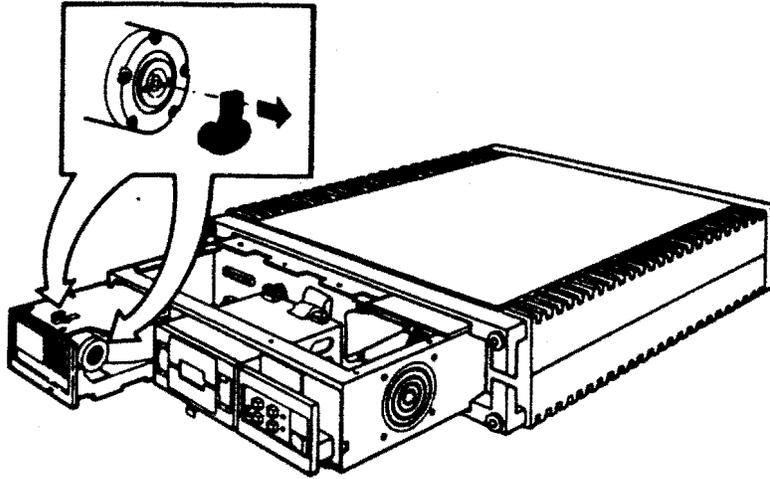

Figure 4-16: RD52 Head Positioning Arm Cover Removal
3. Remove the red plastic cover on the head positioning arm and tape it to the top of the drive (Figure 4-16).